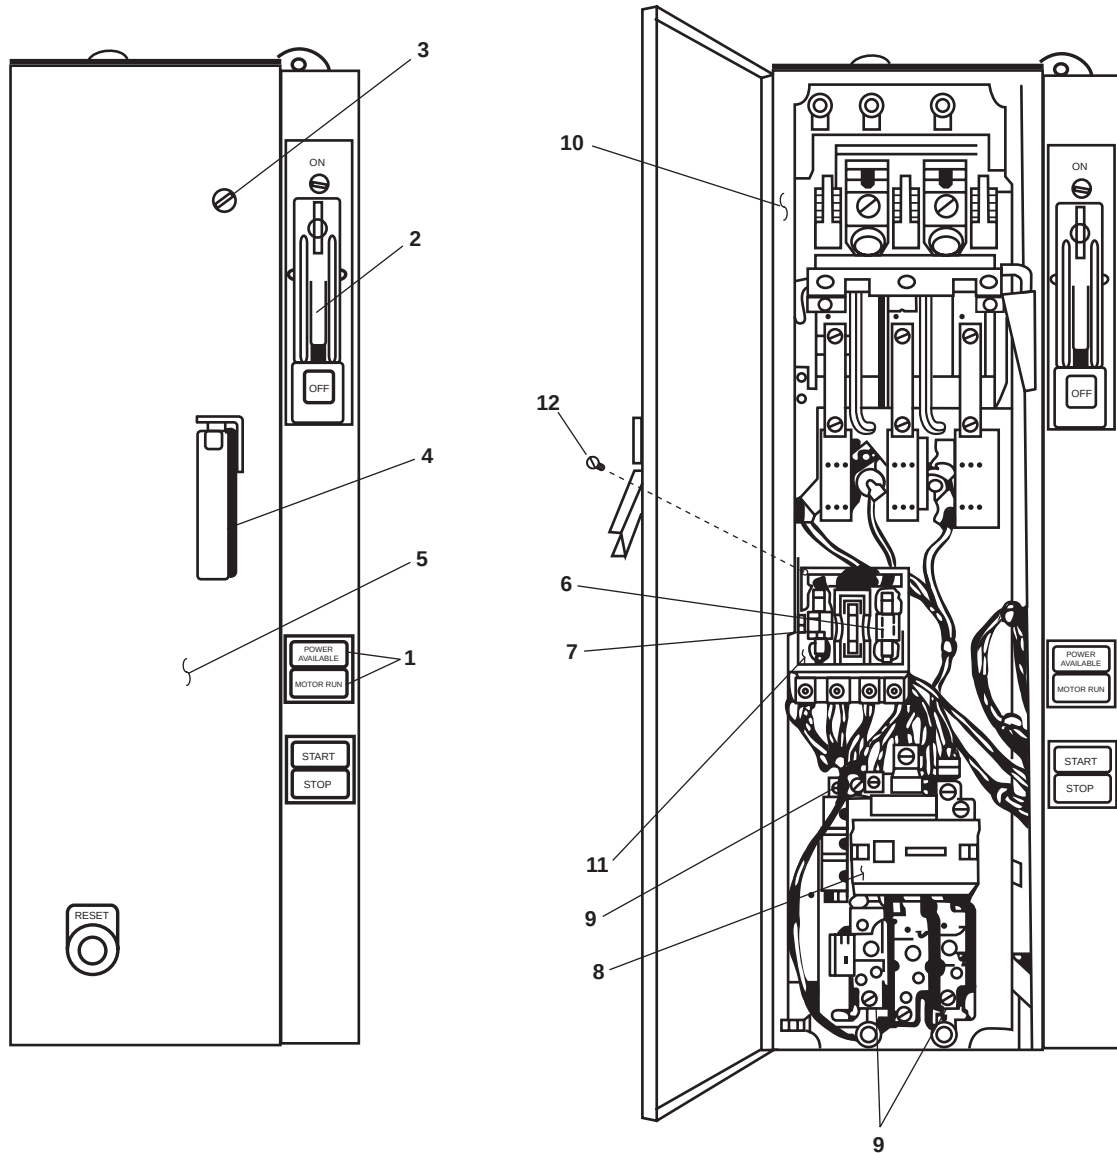

Figure 1. Motor Controller Type 1 (Typical)
1. Remove the lens cover (figure 1, item 1).
1. Install lamps and lens covers (figure 1, item 1).
1. Set the switch handle (figure 1, item 2) to OFF.
2. Loosen the motor controller door screw (figure 1, item 3).
3. Turn the handle (figure 1, item 4) to open the door (figure 1, item 5).
2. Use a multimeter to check for voltage at the fuses (figure 1, items 6 and 7). If voltage is present, ensure that the proper circuit breakers have been set to OFF, locked out, and tagged out (FM 55-502). If no voltage is present, continue with the procedure.
3. Remove the cartridge fuses (figure 1, item 6) and/or the slo-blo fuse (figure 1, item 7) using a fuse puller.
1. Install the cartridge fuses (figure 1, item 6) and/or the slo-blo fuse (figure 1, item 7) using a fuse puller.